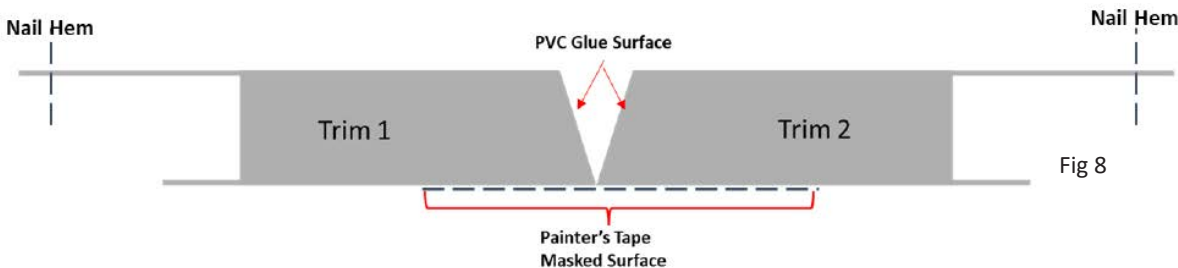

Fig 8
- Using PVC glue to bond the joint together, ensure no adhesive gets on the face of the casing (Fig 8).